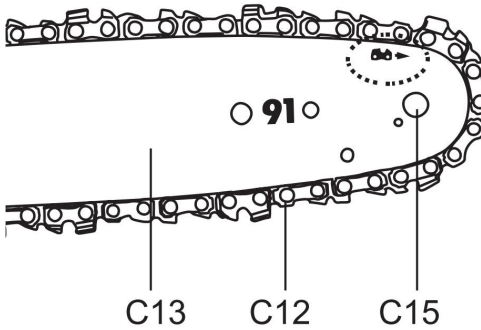

Fig. 11
7) The saw chain movement is as indicated by the arrow (Fig. 11).
Make sure the saw chain (C12) is properly placed over the sprocket wheel (C15) of the guide bar (C13). (Fig.11)